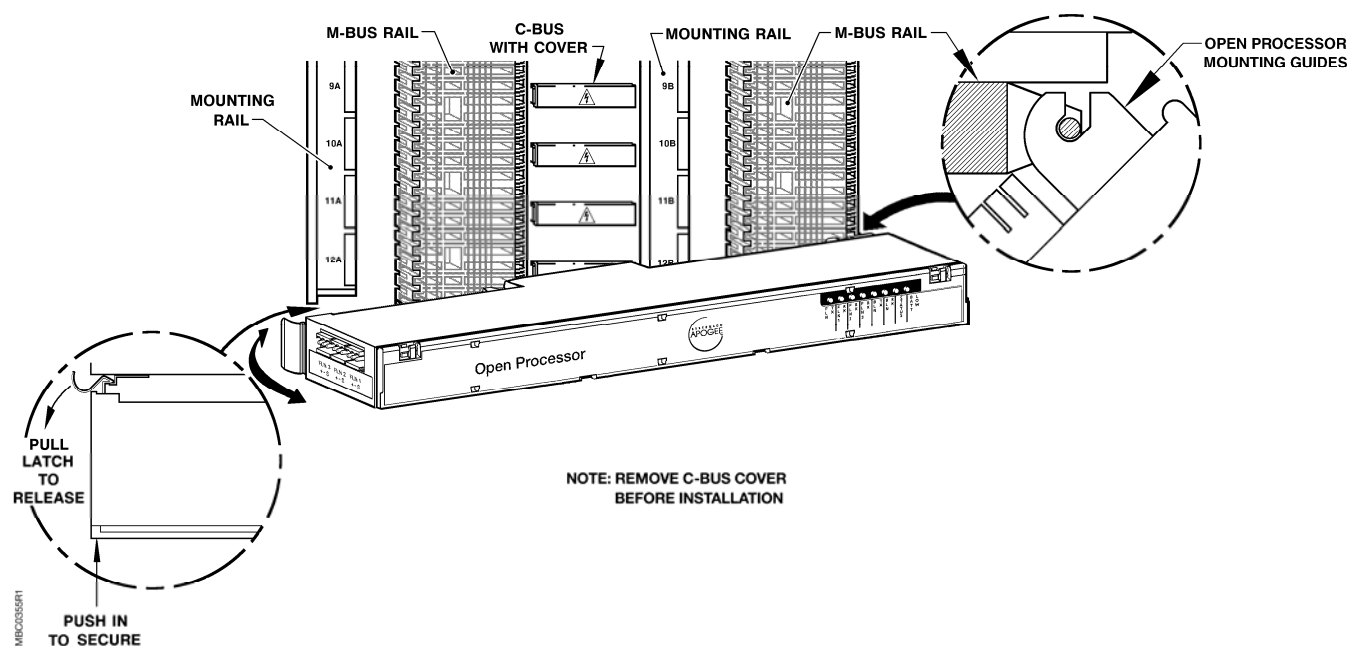

Figure 2. Installation of the Power Open Processor/Open Processor.
3. Remove the C-Bus cover from the lowest available slot and discard (see Figure 2).
4. Remove any remaining M-Bus protective tape from the M-Bus rails (see Figure 2).
7. Align the Power Open Processor/Open Processor with the slot number printed on the mounting rail (see Figure 2).
8. Align the Power Open Processor/Open Processor mounting guides with the right-hand edge of the M-Bus rail (see Figure 2).
9. Push firmly on the free end of the Open Processor so that the C-Bus card edge and M-Bus connector mate with the C-Bus connector and M-Bus rail (see Figure 2). You will hear a "click" when the Power Open Processor/Open Processor is properly attached to the mounting rail.
10. If the Power Open Processor/Open Processor needs repositioning, pull the metal latch. Pull the Power Open Processor/Open Processor forward from the C-Bus connector (see Figure 2) and repeat Steps 7 through 9.
5. Remove the C-Bus cover from the lowest available slot and discard (see Figure 2).
9. Align the Power Open Processor/Open Processor with the slot number printed on the mounting rail (see Figure 2).
10. Align the Power Open Processor/Open Processor mounting guides with the right-hand edge of the M-Bus rail (see Figure 2).
11. Push firmly on the free end of the Power Open Processor/Open Processor so that its C-Bus card edge and M-Bus connector mate with the C-Bus connector and M-Bus rail (see Figure 2). You will hear a “click” when the Power Open Processor/Open Processor is properly attached to the mounting rail.
12. If the Power Open Processor/Open Processor needs repositioning, pull the metal latch. Pull the Power Open Processor/Open Processor forward from the C-Bus connector (see Figure 2) and repeat Steps 9 through 11.